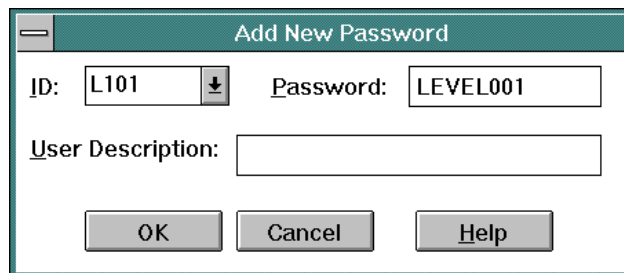

Figure 10-3. Add New Password Dialog Box
4. Click the *Add* button. The *Add New Password* dialog box appears (Figure 10-3).